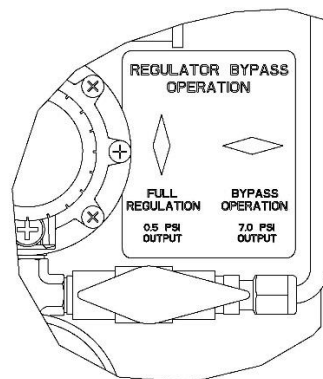

Figure 9a – By-Pass Regulation Valve
2. Turn the “Bypass-Reg.” to “Bypass” position for purging. This increases pressure going into the transformer from 0.5 to 7 psi (Figure 9a).